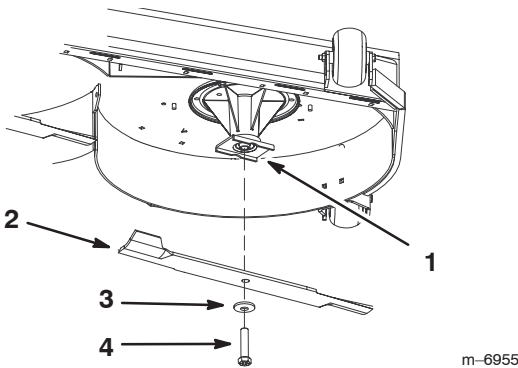

Figure 5
**Important** The sail part of the blade (i.e., the turned up section) must face the inside of the mower (Fig. 5).
1. Install the new blades to the spindles with washers and blade bolts that were previously removed (Fig. 5).